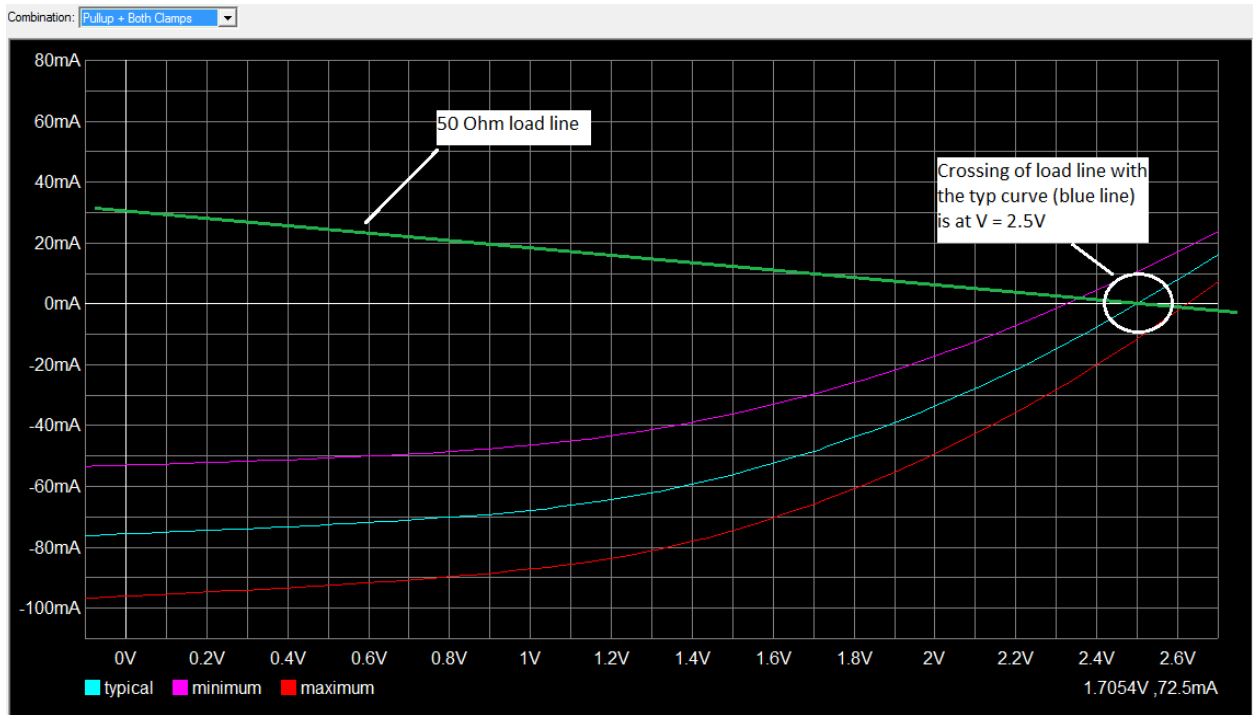
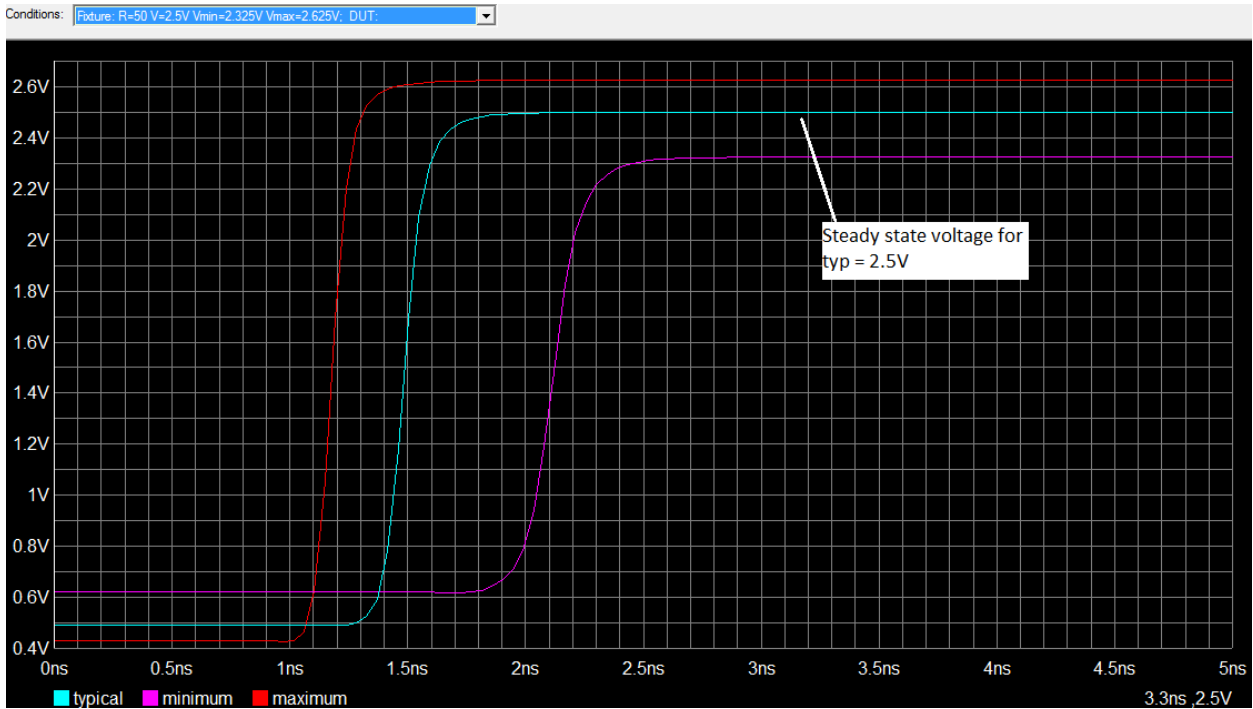

Figure 3-1. Crossing of 50 Ohm load line with the typical Pullup + Both Clamps curve
Figure 3-2. Steady state voltage of the typical rising characteristics with $V_{\text{fixture}} = V_{\text{ccio}}$
- e) As shown in the Figure 3-1, the crossing of the 50Ohm load line with the typical Pullup + Both Clamps curve (blue line) = 2.5V is similar to the steady state of the typical rising characteristic type 2 = 2.5V in Figure 3-2.